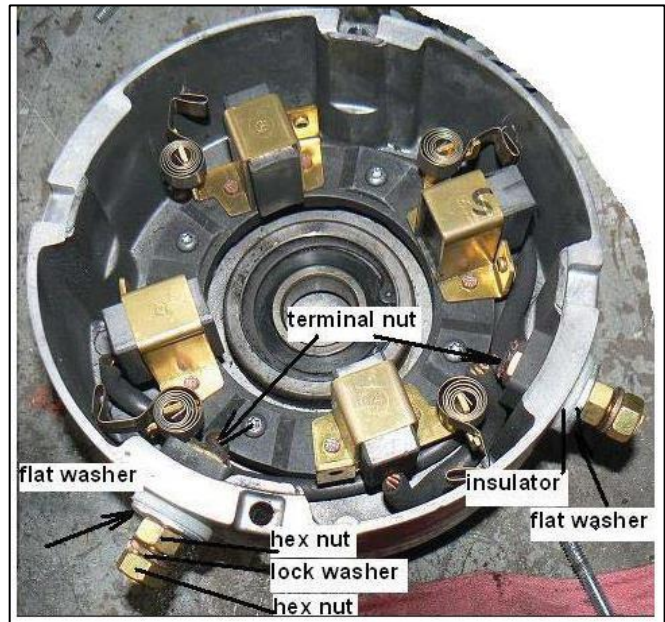

Figure 10-6
6. Remove 1 hex nut, 1 lock washer, 1 hex nut, 1 flat washer and 1 insulator at each brush terminal, A1 and A2. Figure 10-6.